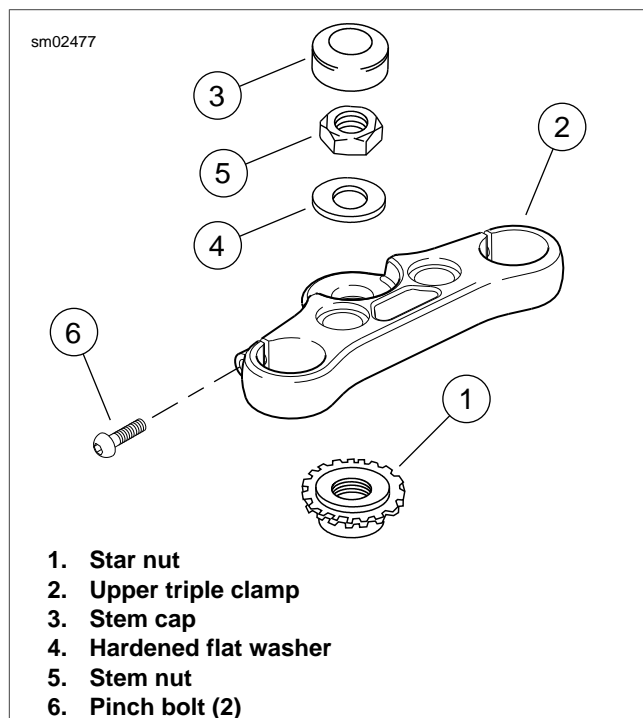

Figure 1-45. Steering Head Components
- See Figure 1-45. With HUBCAP REMOVER AND INSTALLER (Part No. HD-41494) unscrew and remove stem cap (3).
- Loosen fork stem nut (5).